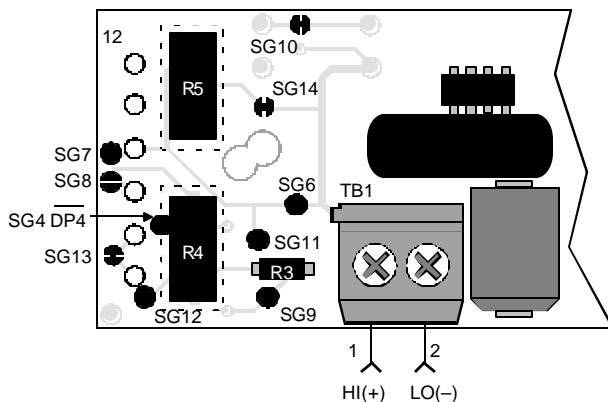

Figure 3. R4 and R5 Installation
- Span (Gain) and Zero (Offset) Adjustments** (See Figure 3): DATEL offers a resistor accessory kit, part number RN-DMS, consisting of 20-turn potentiometers R4 (2K Ohms) and R5 (50K Ohms) and leaded resistor R3 (10.5K Ohms). However, the leaded resistor supplied with the RN-DMS accessory kit is not needed with the DMS-EB-AC/DC since it contains a factory-installed 10.5K Ohm chip resistor. Once installed, these potentiometers permit the span and/or zero adjustments described in the following sections. R4 provides span adjust, while R5 applies a positive offset to the meter's (-) IN LO input.